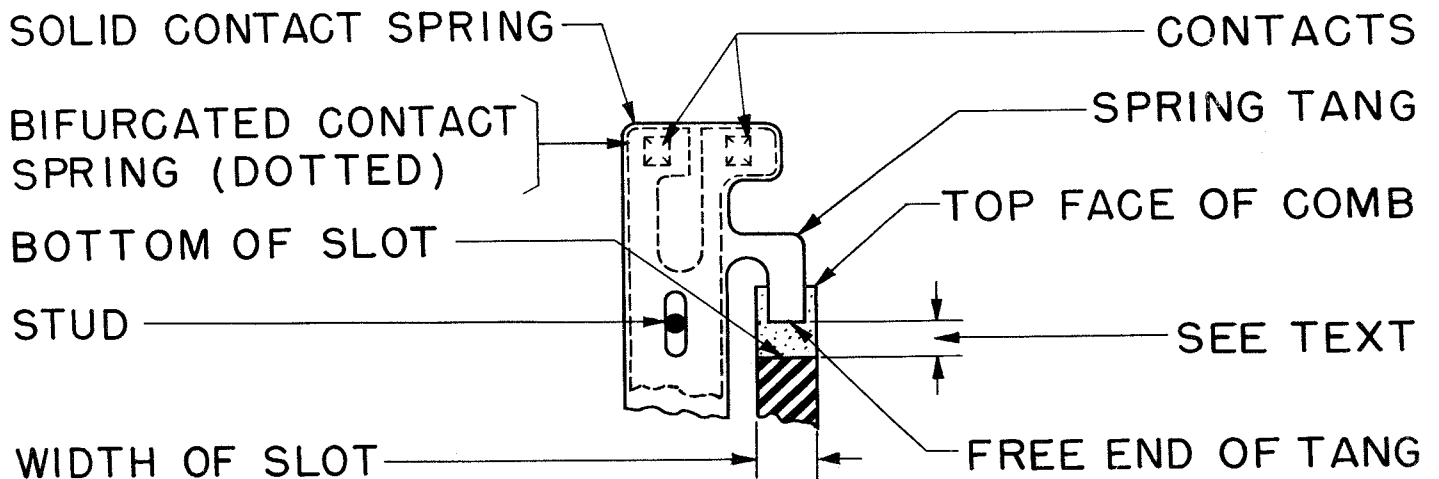

Figure 77
- (b) The width of each spring tang shall lie entirely within the slots in the comb as gauged by eye. See Figure 77.
2.153 Sensing-contact-assembly Comb Alignment: (See also 2.151.) The spring tangs shall rest in the slots of the comb so that there is approximately equal clearance from the free end of the tang to the bottom of the slot as gauged on the two end springs with tangs. See Figure 77.